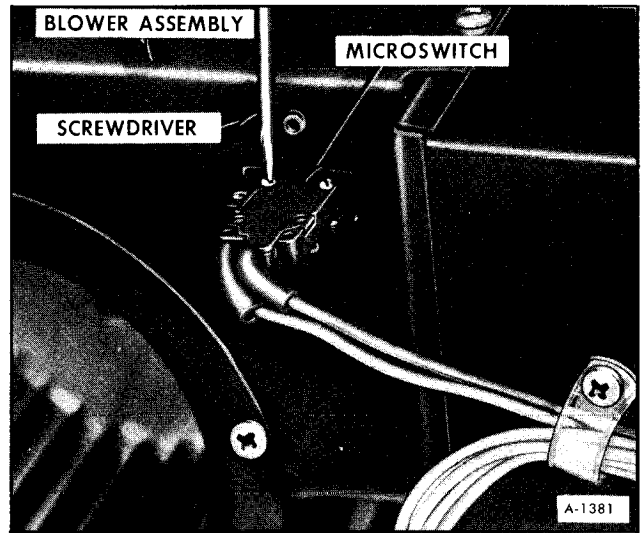

Figure 13—Removing Microswitch
3. Remove two screws and nuts holding microswitch assembly in blower housing and remove switch (See figure 13).
1. Install microswitch in blower housing and secure with two screws and nuts (figure 13).